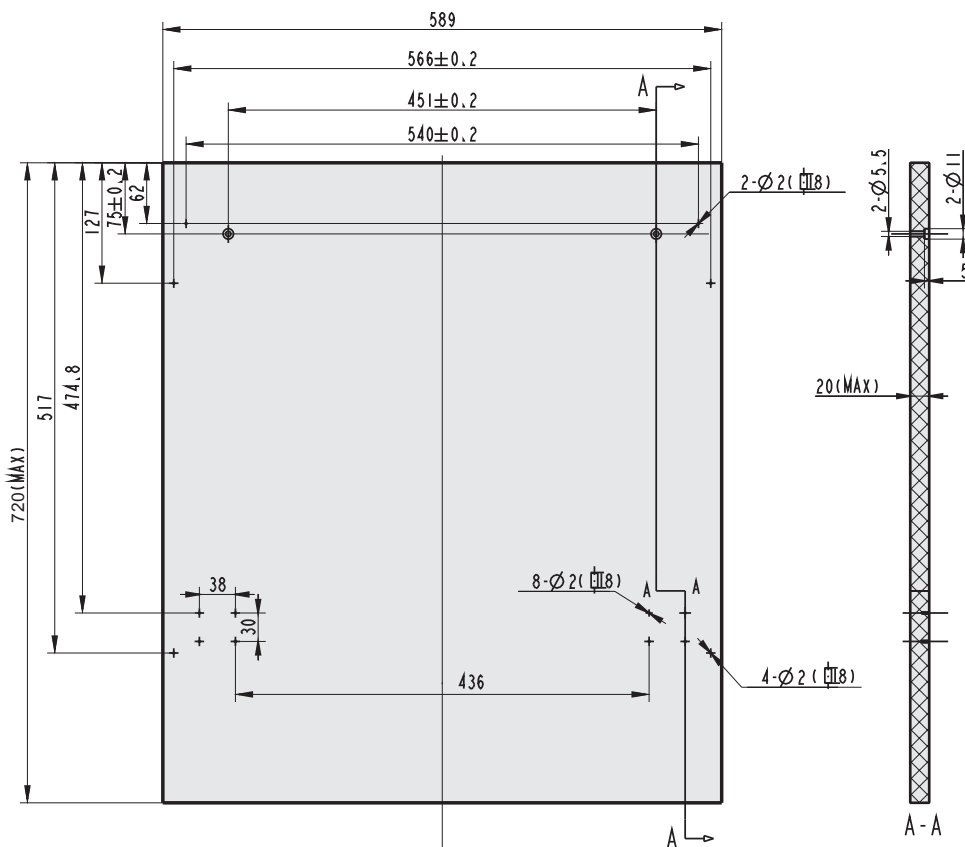

Figure 3
- The aesthetic wooden panel could be processed according to the *Figure 3*, in accordance with the illustrated dimensions